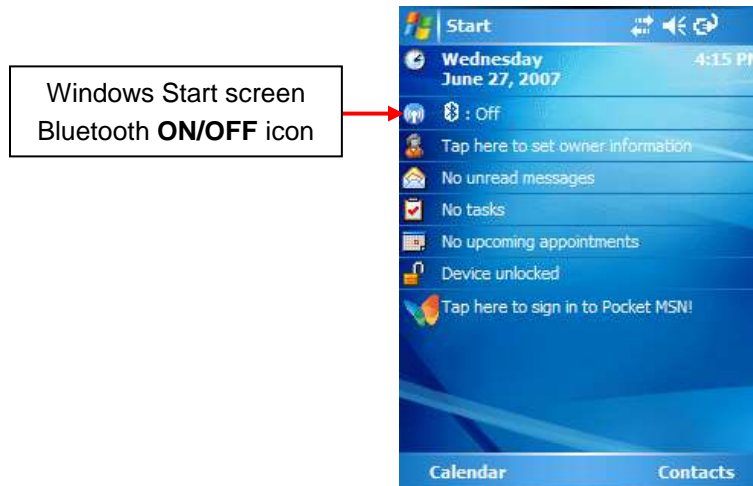

Figure 19: Windows 5.0 start screen.
2. Turn ON the EMP-400. The **Green** power status light next to the EMP-400 power switch will illuminate (Figure 19 and 20). The **Blue** Bluetooth communication status lights will also illuminate. When the EMP-400 Li Ion battery reaches a power low condition, the **Green** power status light will begin to blink.
4. After PDA power up, the RECON-400 Windows™ **Start** splash screen will be displayed (Figure 19).